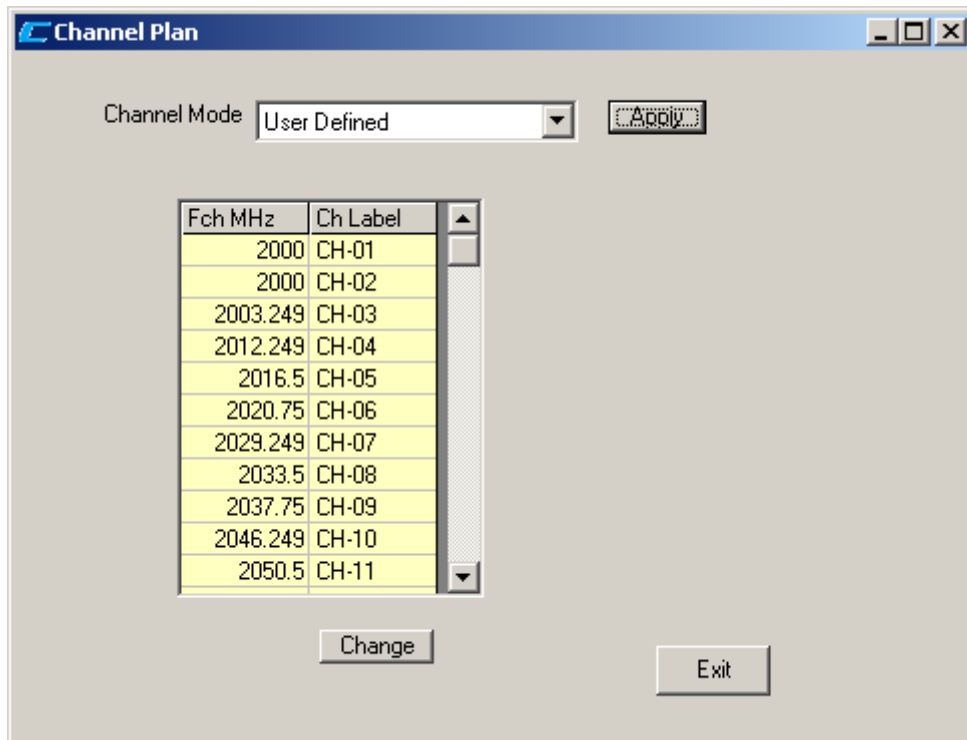

Figure 20 User Defined Channel Mode Screen
- User Defined (reference figure 20) – this channel plan is defaulted with 30 pre-defined channels initially but any channel and channel label can be modified. Select the 'User Defined' channel mode using the pull down box and then click on the 'Apply' button. Then click on the 'Change' button. Enter the frequency in the "Center Freq (MHz)" text box and the label in the "Channel Label" text box as shown. Then click on the 'Accept' button to save or 'Cancel' to cancel the operation.